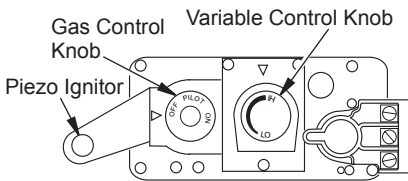

Figure 45 - Control Valve
- Turn gas control knob counterclockwise  to "PILOT". (see Figure 45)
- Push in gas control knob all the way and hold. Immediately light the pilot by repeatedly depressing the piezo spark ignitor until a flame appears. Continue to hold for about one (1) minute after the pilot is lit. Release gas control knob and it will pop back. Pilot should remain lit. If it goes out, repeat steps 5 through 8.